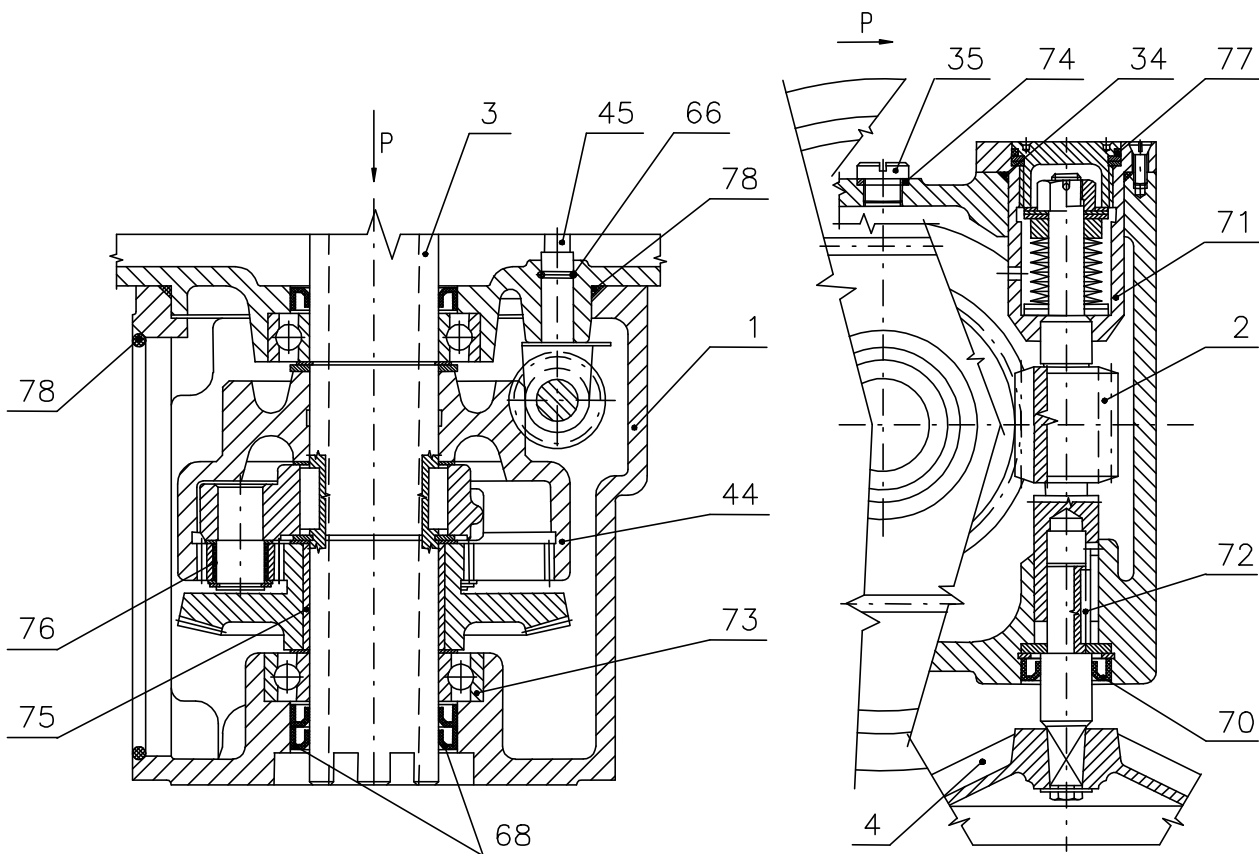

Fig.2
Modul M 3 – force transmission with manual control (Fig. 2)
Torque disk (Fig. 4) is assembled on torque shaft (45) discharged from power transmission (Fig.2). Steer angle of torque disk is proportional to torque moment of output shaft (3) of electric actuator. Its magnitude can be adjusted by segments (17) and by shifting of backstops (18). Achieved torque moment value is from torque disk transferred on torque unit (9) by means of torque lever (42).